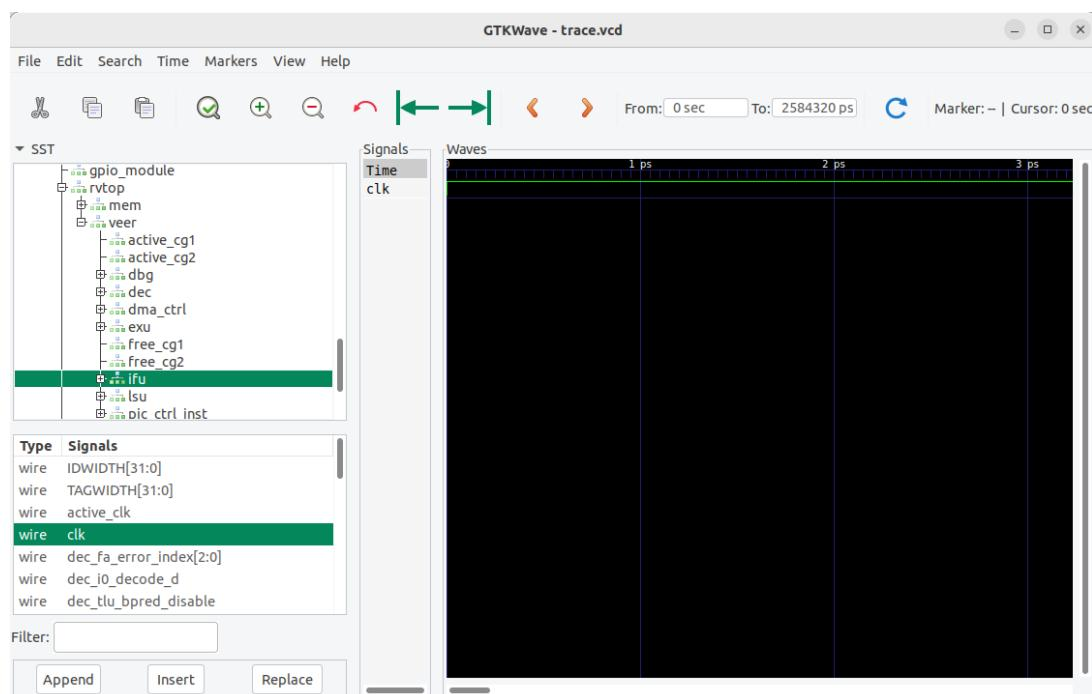

Figure 68. Add signal *clk* to the graph
1. Now you will add clock, instruction, and register signals. On the top left pane of *GTKWave*, expand the hierarchy of the SoC so that you can add signals to the graph. Expand the hierarchy into **TOP** → **rvfpgasim** → **VeeRwolf** → **rvttop** → **veer**, and click on module **ifu** (it will highlight as shown in the Figure 68), select signal **clk** (which is the clock used for the core) and drag it into the white Signals pane or the black Waves pane on the right.